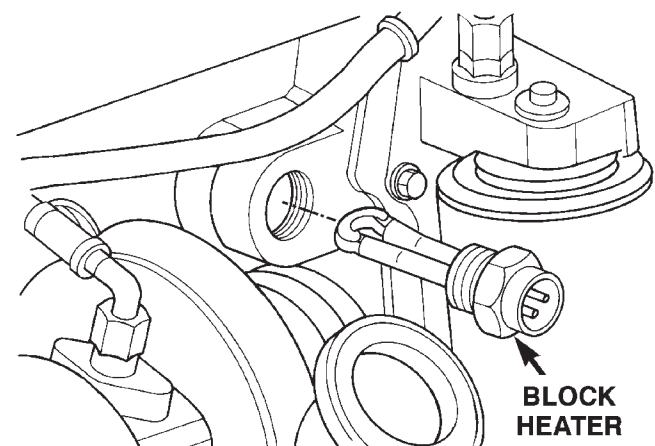

Fig. 85 Block Heater—Diesel Engine
- (1) Disconnect negative battery cable(s) from battery(s).
- (2) Drain coolant from radiator and cylinder block.
- (3) Unscrew the power cord retaining cap and disconnect cord from heater element.
- (4) Using a suitable size socket, loosen and remove the block heater element (Fig. 85).